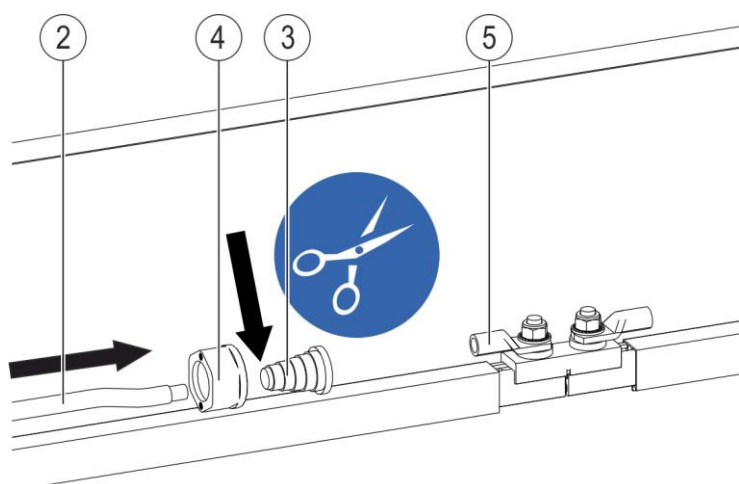

Fig. 85: Slide the cable ends through the grommet
- Place the nuts (Pos. 4) over the ends of the connecting cable (Pos. 2) (see Fig. 85).
- Cut rubber grommets (Pos. 3) according to the cable diameter and slide the stripped ends of the connecting cable (Pos.2) through the grommets (one-sided or two-sided connection possible) (see Fig. 85).